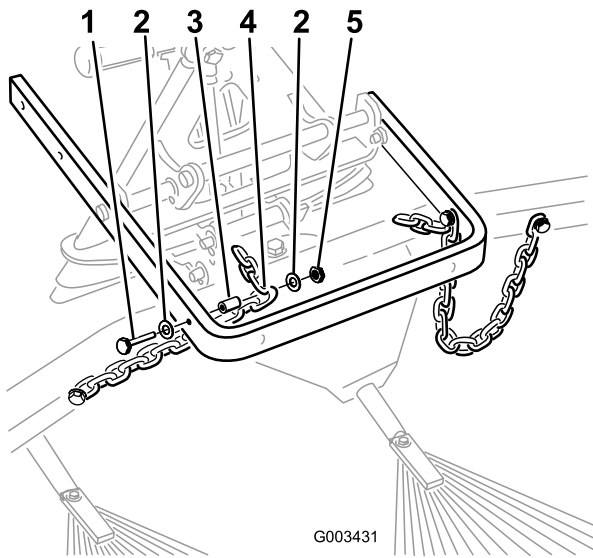

Figure 15
8. Secure the third link of each chain to the inside of the lift arm using the bolts, washers, spacers, and locknuts previously removed (Figure 15).